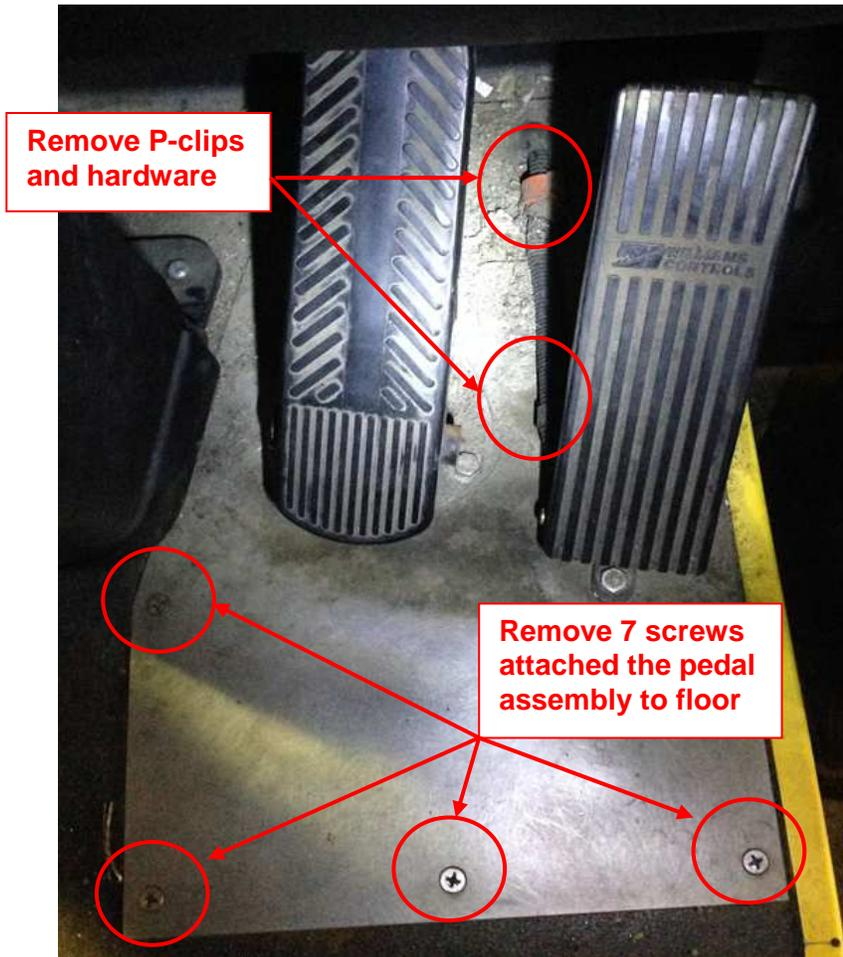

Figure 2: Brake/Accelerator Treadle Assembly
8. Remove p-clips securing the accelerator harness to the brake pedal assembly. Set aside the P-clips and hardware for reuse, see Figure 2.
10. Remove 7 screws attaching brake/accelerator pedal assembly to floor, see Figure 2.